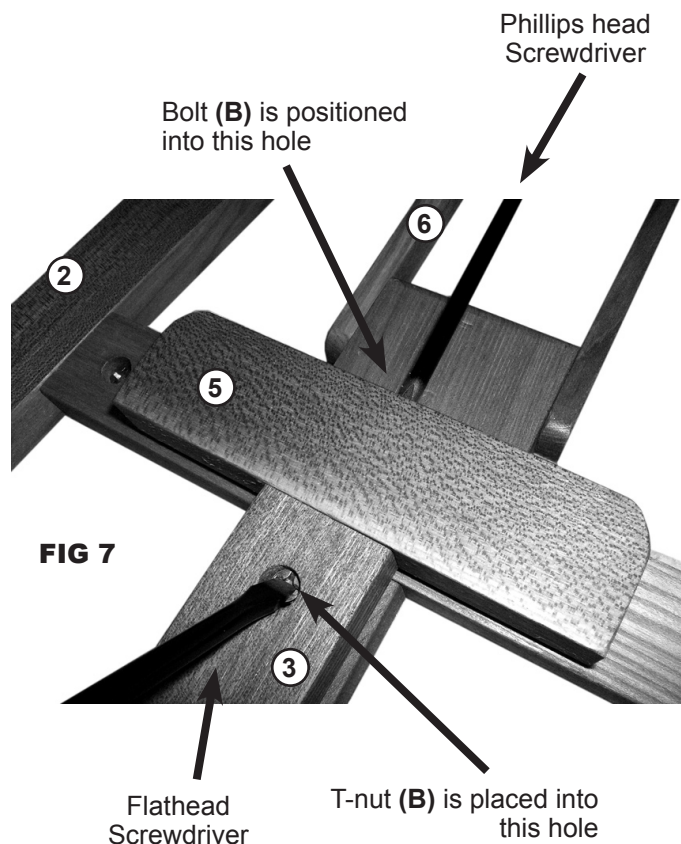

FIG 7
STEP 7. Secure Rear Leg (3) to upper cross support (5) by inserting T-nut (C) into hole on upper portion of rear leg and inserting bolt (C) into hole found on top edge of hinged portion of upper cross member (5). Secure by holding the T-nut in place with a flat head screwdriver (supplied) and tighten down the bolt with the Phillips head screwdriver (supplied) SEE FIG 7.